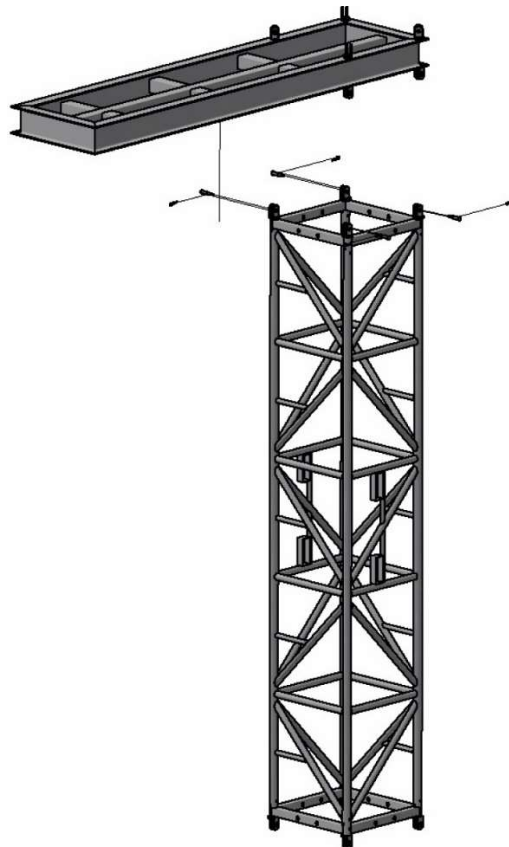

Figure 7: Connecting the head section
- 4.b) Connect the S-78T-TOP-01 head section to the end of the final length of truss using the pins and R-clips, as shown in Figure 7. Then connect the S-78T-TOP-02 head